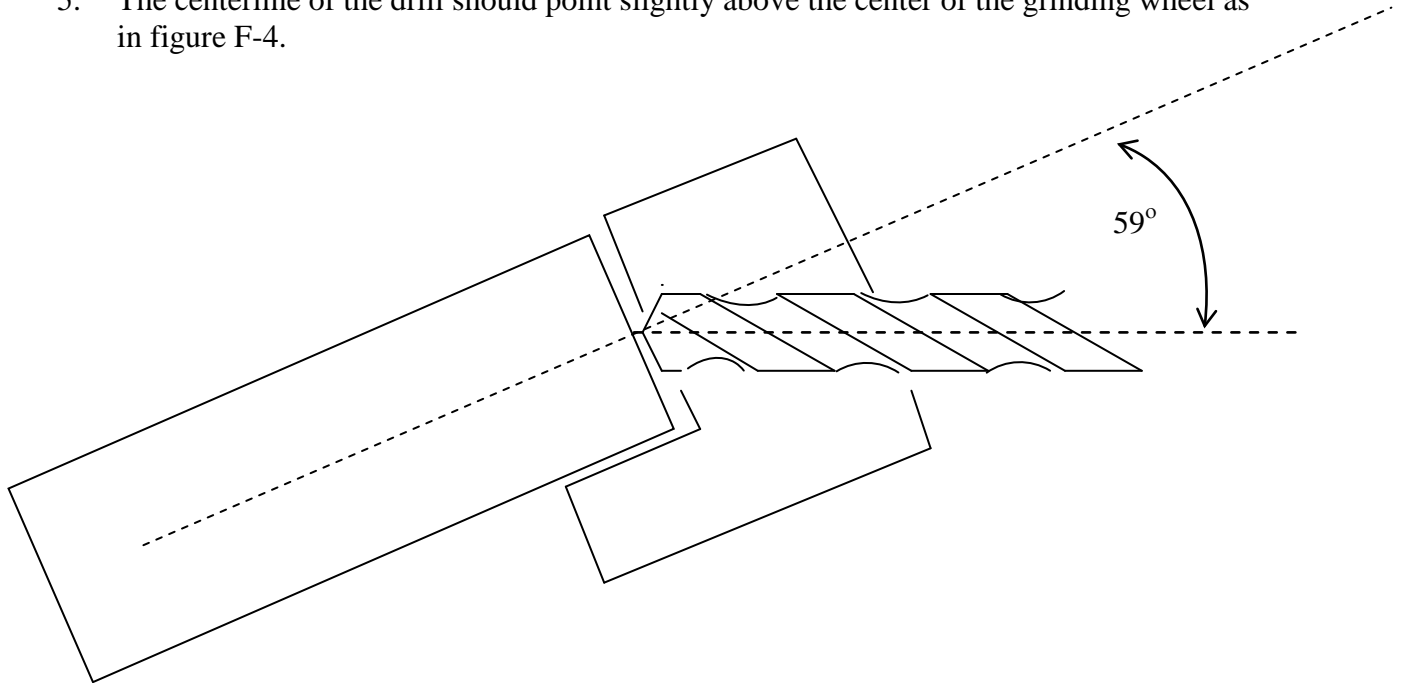

Figure F-3
4. The drill should be held at a 59° angle to the centerline of the grinding wheel as in figure F-3.